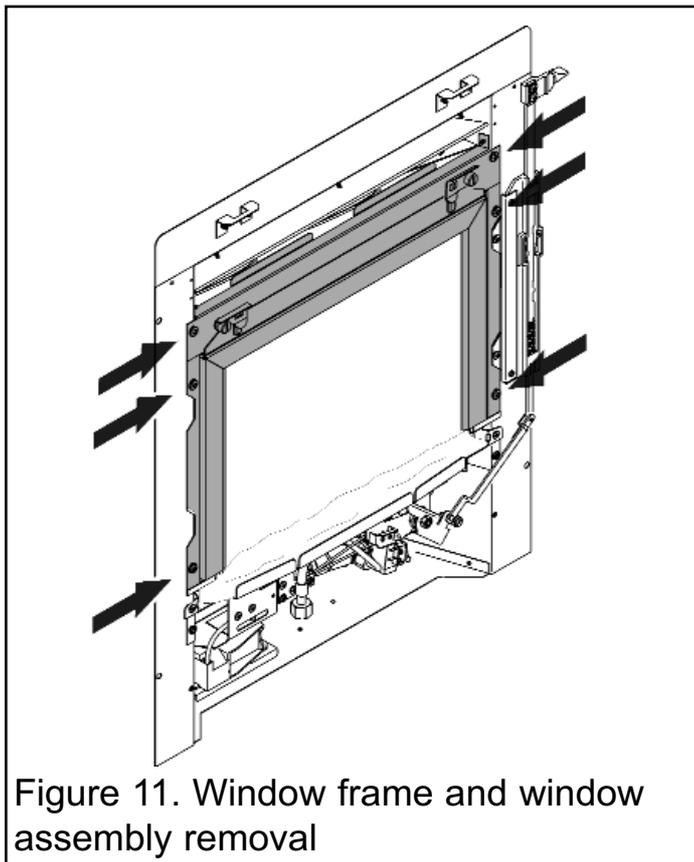

Figure 11. Window frame and window assembly removal
2. Unscrew and remove the six screws that secure the window mounting frame and window assembly. Remove and place away from the work area (See figure 11).